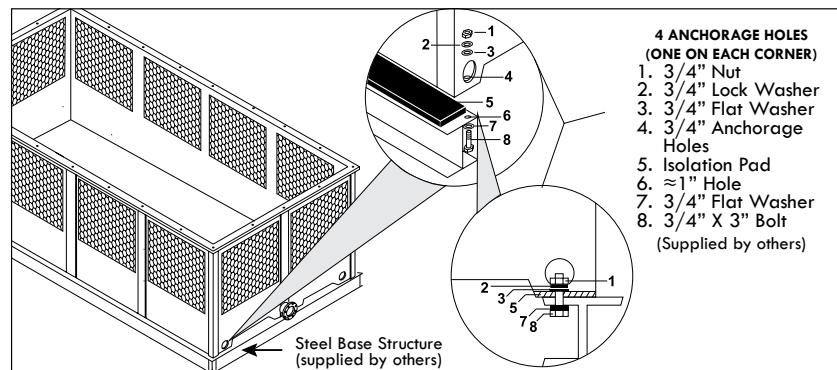

Figure A-15: Typical anchorage for a Two Fan Tower
- H. Place the lower section of the Tower (basin) on top of the isolation pad and the base structure; Secure it with the galvanized steel nut and bolt sets (supplied by others) as shown on Figure A-15.